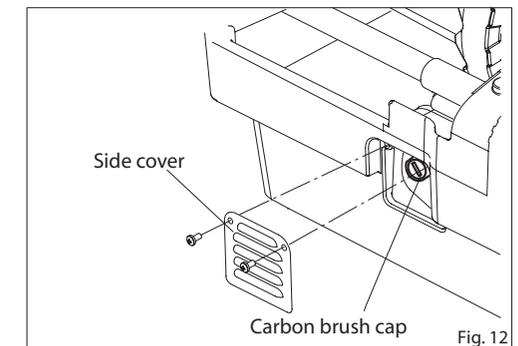

Fig. 12
2. Replacing the Carbon Brushes (Figs. 12, 13)
- Replacing Carbon Brush A (Fig. 12)